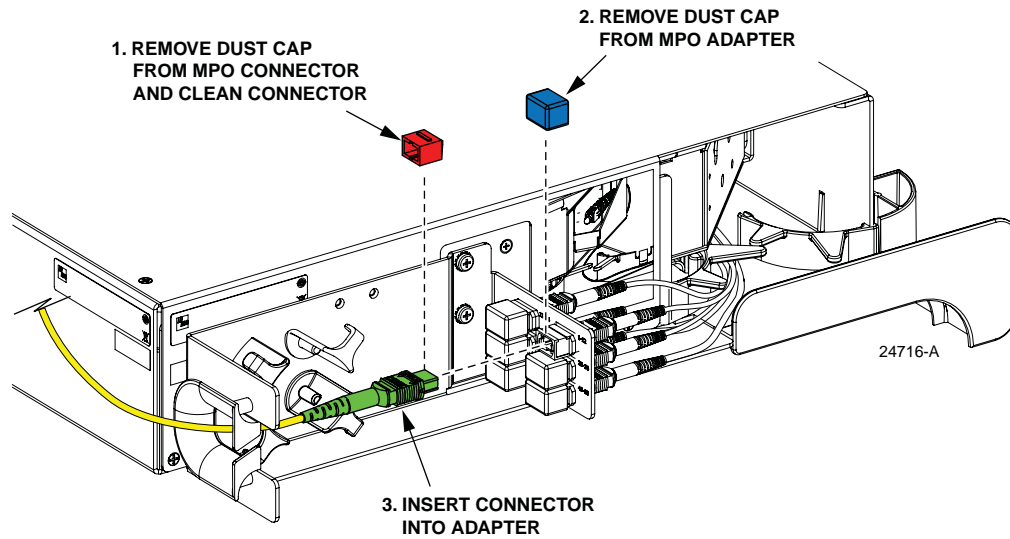

Figure 40. Connect MPO Connector To Bulkhead Adapter
4. Remove the dust cap from the MPO bulkhead adapter and then connect the cable connector to the adapter as shown in Figure 40.